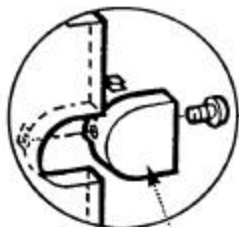

Fig. 83 Infill Panel
3. If the appliance is flued to the left or to the right, remove the relevant infill panel by removing the retaining clips and fixing screws (Fig. 83).